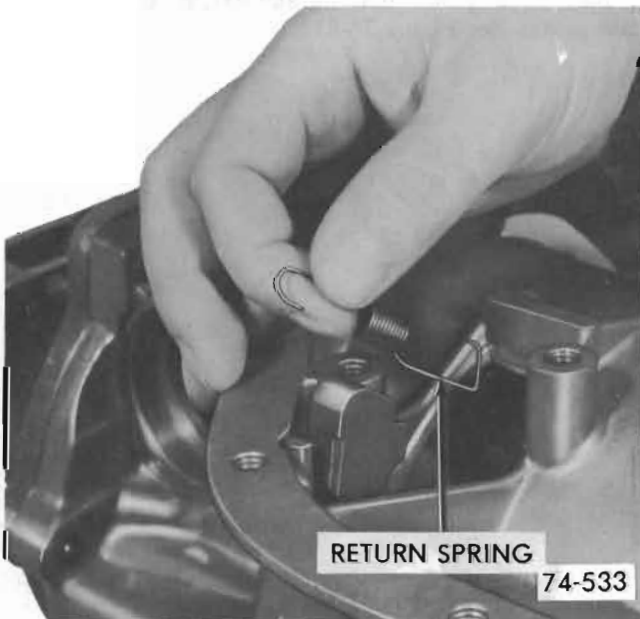

Figure 76-77
g. Remove parking pawl return spring. See Figure 76-77.